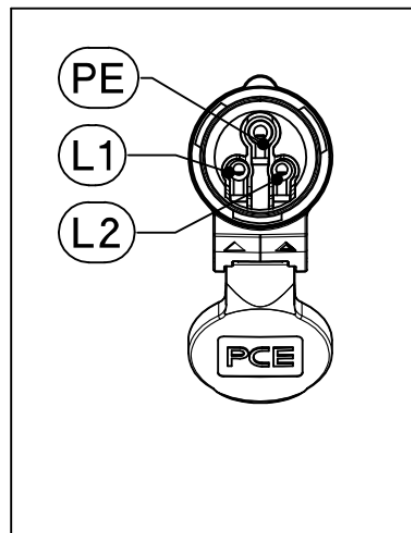

Fig. 6
- Connect the 2 phases to the terminals marked L1, L2 (Fig. 6) for single phase motors. (BLUE PLUG)